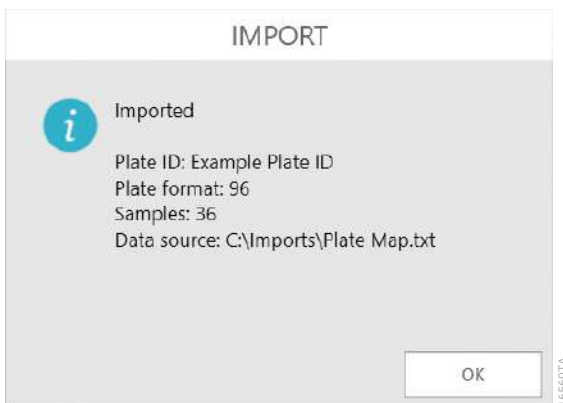

Figure 44. ‘Import’ screen. The ‘Import’ screen displays a summary of information from the import of a plate map file.
7. Once all data fields are identified, tap the **Accept** button to perform the import of data from the file. An 'Import' screen is shown summarizing the results of the plate import including the Plate ID, plate format, number of samples present in the file, and the data source for the import file (Figure 44). Tap **OK** to dismiss the 'Import' screen.